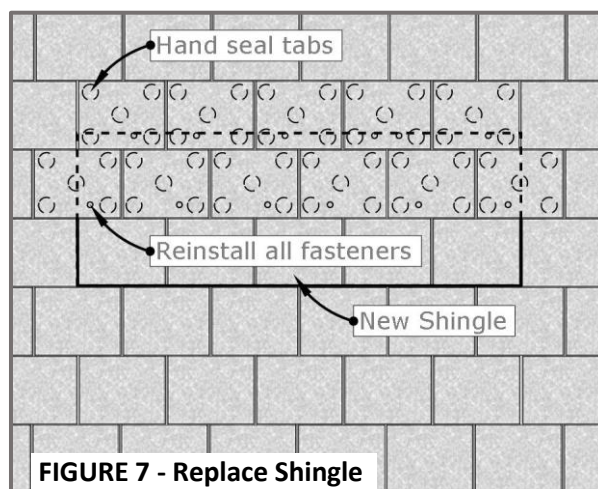

FIGURE 7 - Replace Shingle
- Replace the damaged shingle with an undamaged shingle of the same style and appearance. Slide the new shingle into place. For F-WAVE® REVIA® **XTM** Roofing Shingles engage the front edge lock. Reinstall all fasteners that had previously been removed. Hand seal tabs as required. Hold the front edge down using five 1" (25mm) diameter sized spots of F-WAVE approved sealant and adhesive. See **Figure 7**.